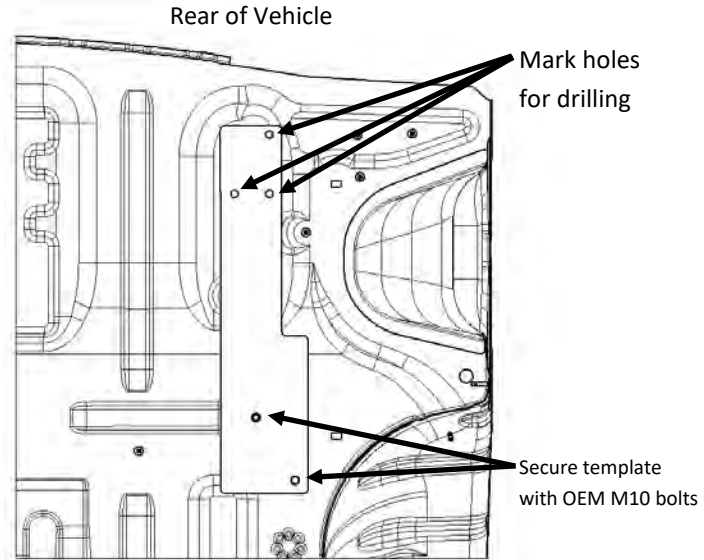

Figure 1b
1. Locate the black ABS hole template. Using the removed OEM M10 bolts, secure the template to the driver side front bracket mounting holes as shown in Figure 1b. Mark the rear bracket holes for drilling. Drill 7/16" holes in floor for mounting of rear brackets. Repeat using the same template for passenger side (template will be flipped over)